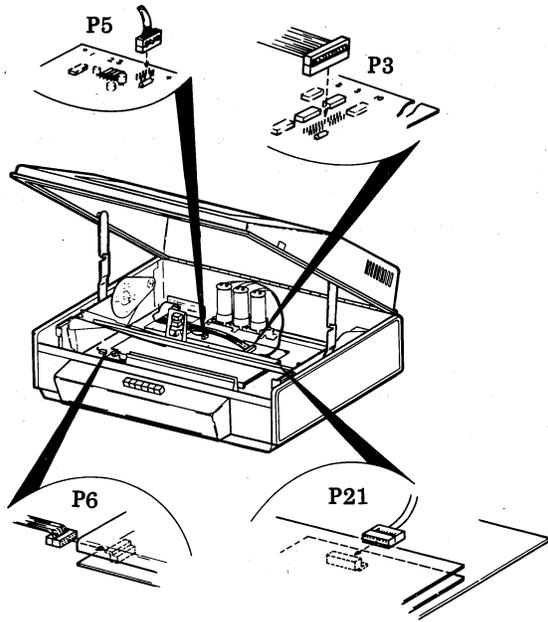

Fig. 17—P3, P5, P6 and P21 Connectors
- (c) Unplug P3, P5, P6 and P21 connectors from the circuit card (Fig. 17).